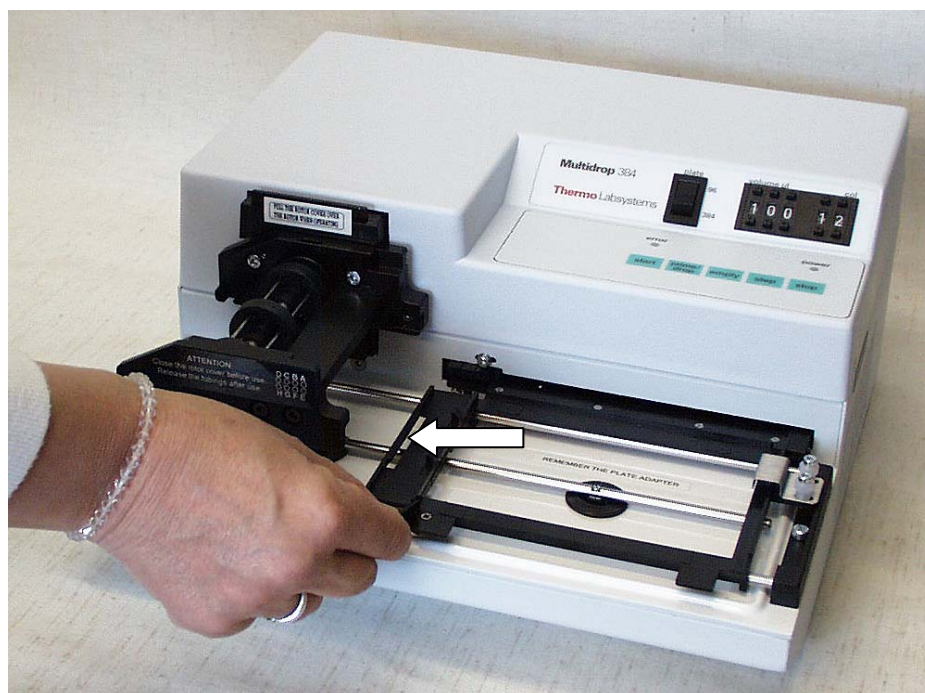

Fig. 6.8 Opening the plate adapter lock
1. Open the plate adapter lock located in the front left corner of the plate carrier (*Fig. 6.8*). Select the plate adapter according to the height of the plate.